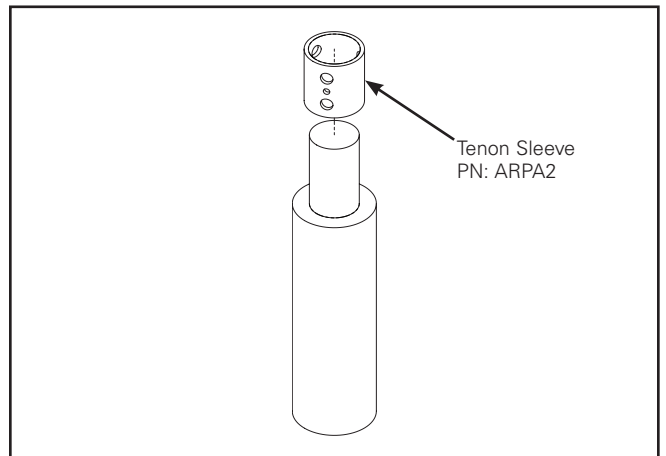

Figure 6.
1. Slide tenon sleeve **ARPA2** over 2-3/8" tenon. (Figure 6.)